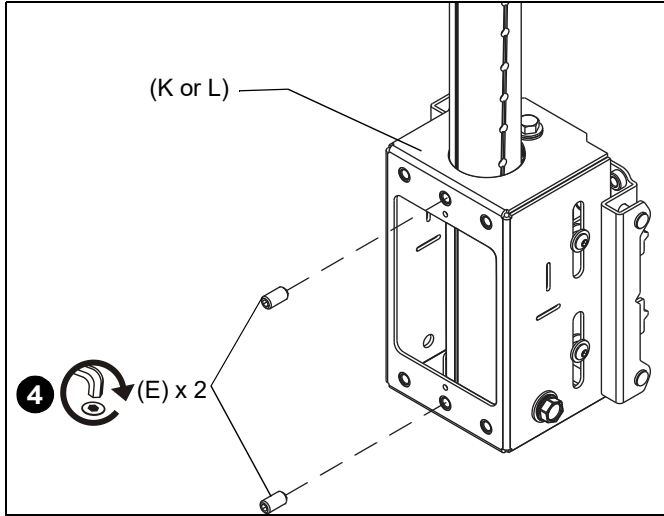

Figure 4
- Install and tighten two 5/16" set screws (E) against column. (See Figure 4)